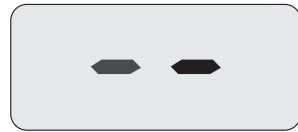

Fig. 7.4
- Electrically power the boiler by switching on the double pole isolation switch. The LCD will display, the  symbol (Fig. 7.4).
- Switch off the boiler by pressing the 11 (Fig. 7.5) key for 2 seconds until the   symbol appears on the LCD display (Fig. 7.4).